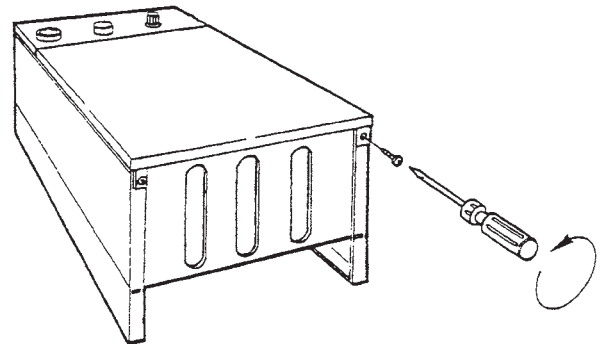

Fig. 19
- 5.4.1 - Remove the 2 screws that secure the upper part of the front panel of the casing (Fig 19).